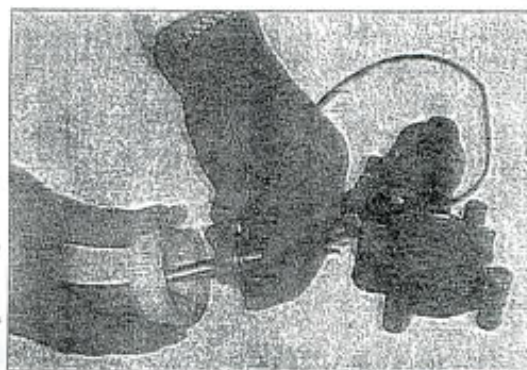

FIG. 7
7. Re-install metal shaft onto plastic gear. (Fig. 7)